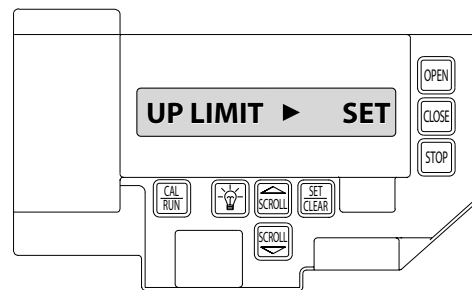

Figure 8A
- 4) Press SET/CLEAR key to switch display to "UP LIMIT>SET" Figure 8A.